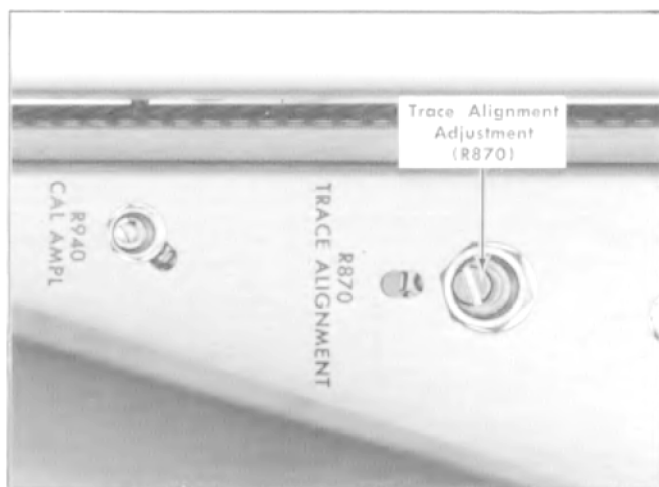

Fig. 6-24. Location of trace alignment adjustment (Calibrator and High Voltage chassis).
c. Adjust—R870, Trace alignment adjustment (Fig. 6-24) so the trace is parallel to the center horizontal graticule line.
①